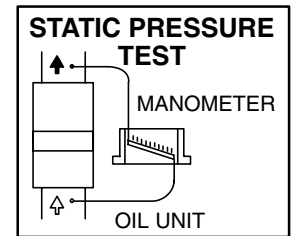

FIGURE 36
1. Measure tap locations as shown in figure 36.